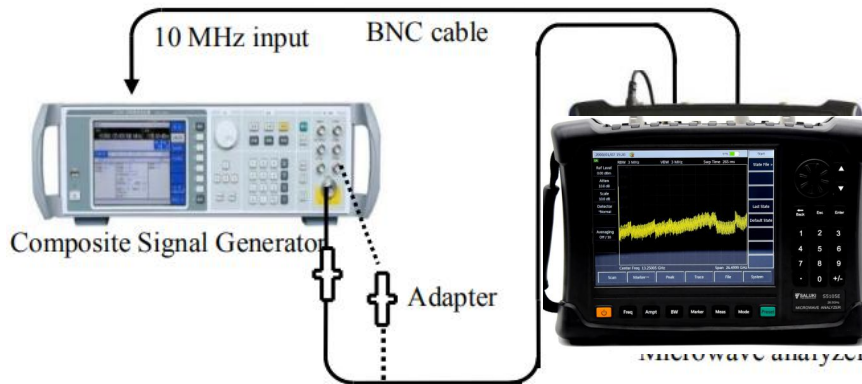

Figure5-33 Frequency Span Test Block Diagram
Test block diagram is shown in Figure 5-33:
- 1) Connect the test equipment as shown in dotted line in Figure 5-33. The S5105D/E/F microwave analyzer provides the reference frequency for the composite signal generator 1464B/C. The low-frequency output port of the composite signal generator is connected to the RF input port of the microwave analyzer as shown in dotted line in Figure 5-33);
- 4) Connect the RF output of the composite signal generator to the RF input of the microwave analyzer with adapters and cables by following the solid lines of Figure 5-33. Set the output frequency of the signal generator to the highest frequency of the corresponding spectrum analyzer model, the modulation function to off, and the output power to -10 dBm.